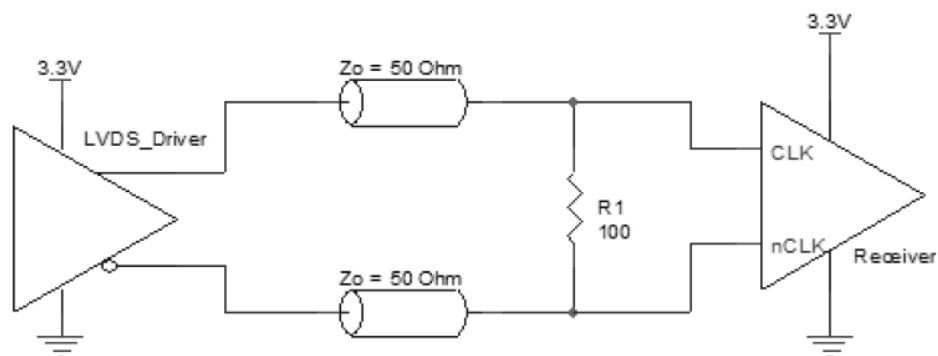

Figure 14. LVDS Output Termination [1]
1. 3.3V is shown in Figure 14, but this drawing applies to both 2.5V and 1.8V applications.